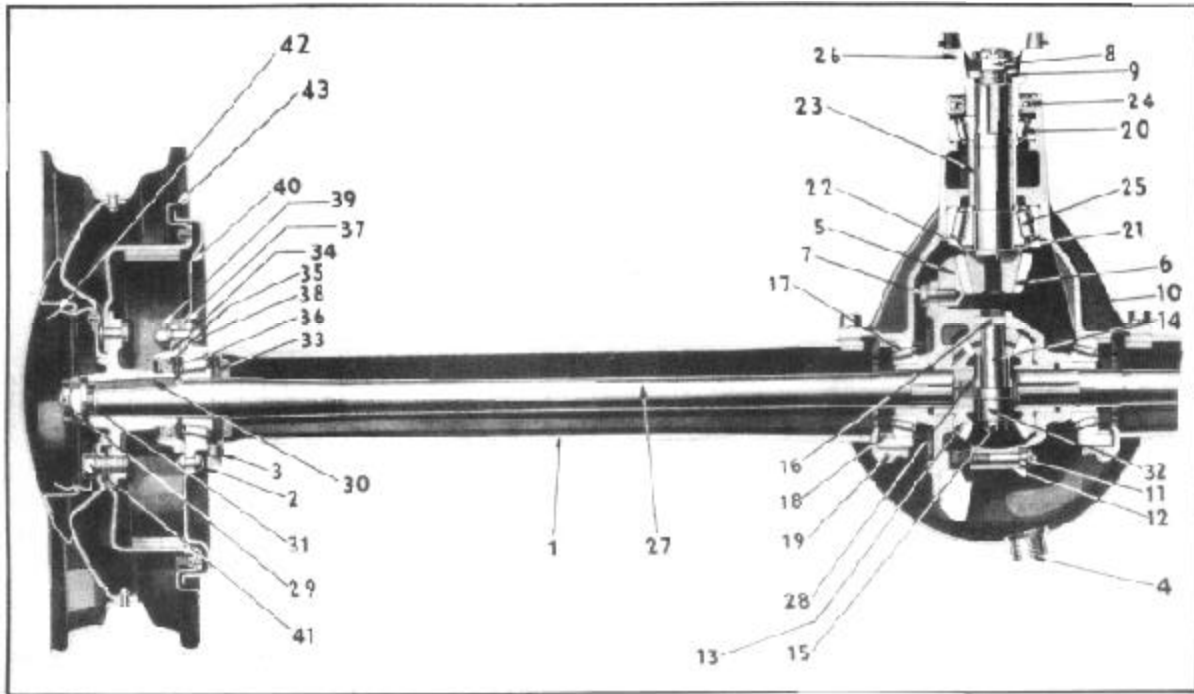
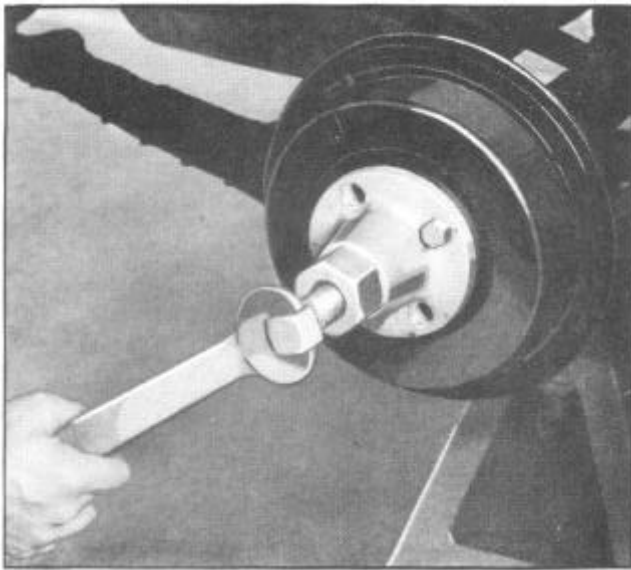
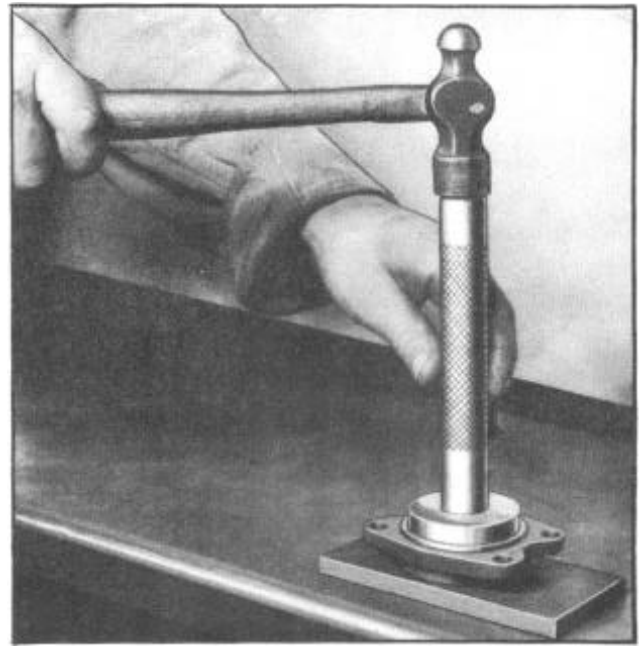
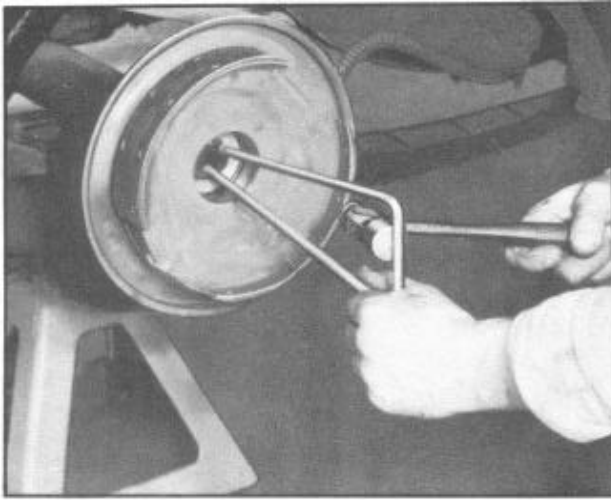

Figure 1--Rear Axle Assembly
Figure 3--Removing Rear Wheel Hub
Figure 5--Replacing Bearing Cap Oil Seal
Figure 7--Removing Axle Shaft Oil Seal
The rear axle, Figure 1, is of the semi-floating type, incorporating helical cut bevel gears mounted in a sturdy pressed steel, banjo type housing. The differential is mounted in a heavily reinforced malleable iron carrier attached to the axle housing with cap screws.
1. Remove drain plug (4), Figure 1.
3. Remove axle shaft nuts (29), also washers using axle shaft nut wrench J 351.
4. Remove rear wheel hubs and brake drums from axle shaft using wheel puller tool J 736, Figure 3.
5. Remove the four nuts (39), Figure 1, holding the wheel bearing adjusting caps (34) and shims (37). Remove caps.
7. Remove bearing cap oil seal assembly (35), Figure 1, and install a new one using tool J 353-1 as shown in Figure 5.
8. Remove rear wheel bearing cone and rollers (36) from axle shafts using bearing remover tool J 3584.
9. Grind off thrust button (28), Figure 1, flush with the end of the shaft on an emery wheel.
15. Remove axle shaft oil seal and retainer (33), Figure 1, using axle shaft and pinion shaft oil seal remover tool HM 555 as shown in Figure 7.